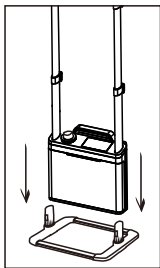
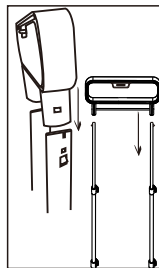

Figure 1
Figure 3
2. Telescopic Bars and Multi-functional Rack Assembly: Insert the Telescopic Bars into the Multi-functional Rack and lock in place (see figure 3). When disassembling the Multi-functional Rack, press the triggers at both sides on the Telescopic Bars and pull out the Multi-functional Rack then connect the base support(figure 1)